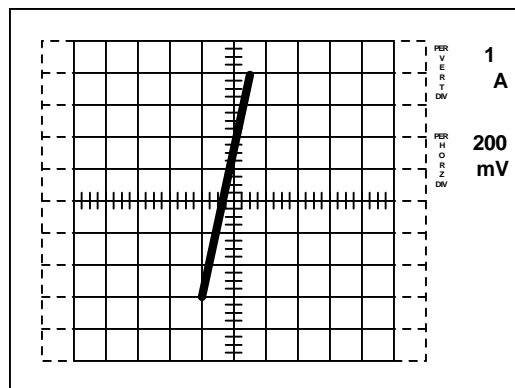

Figure 9. Source-drain voltage (diode)
11. The device is connected using the LEFT/RIGHT switch. Increase the VARIABLE COLLECTOR SUPPLY voltage until rated current is reached (9A for the IRF630). Read V_{SD} from the trace (see Figure 9).